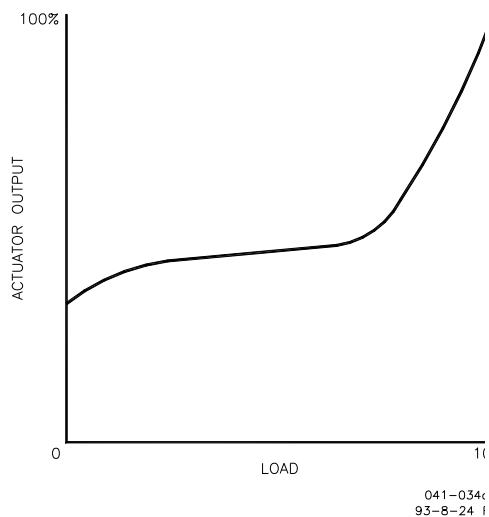

Figure 5-3. Sample Engine Plot
Turbocharged engines distort this curve, particularly as turbo pressure builds to the point of operating the waste gate. A turbocharged gas engine will likely have a butterfly position chart similar to Figure 5-3.
Gain settings reflect the amount of slope as shown in Figure 5-3. Flat portions of the engine plot will require relatively small amounts of gain, steep portions of the plot will require larger gain numbers.
- d. Create a plot of the system by plotting actuator output as a function of load. A typical result is shown in Figure 5-3.